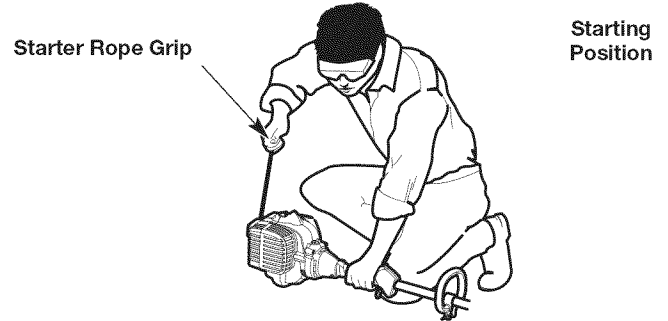

Fig. 9
**WARNING:** Avoid accidentally starting the unit. To avoid serious injury, the operator and the unit must be in a stable position when pulling the starter rope (Fig. 9).
5. **DO NOT** squeeze the throttle control. Crouch in the starting position (Fig. 9).
6. **DO NOT** squeeze the throttle control. Pull the starter rope with a controlled and steady motion until the unit starts (Fig. 9).